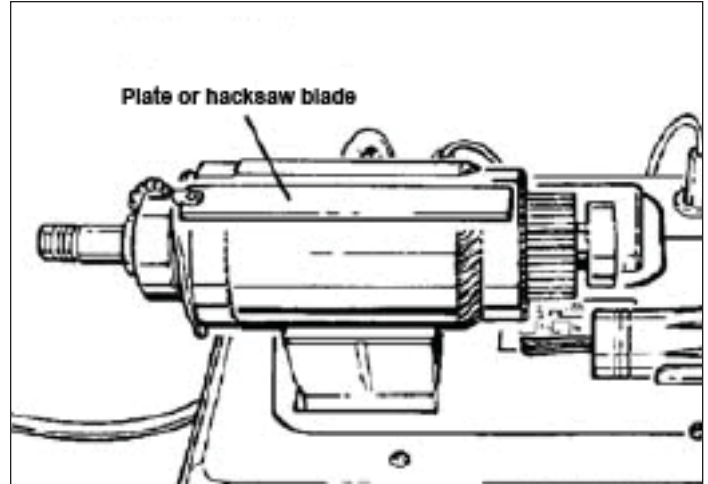

Figure 9-12. Checking Armature for Shorted Windings
2. For short circuit connection, use a hacksaw blade to locate any shorted windings. Rotate armature slowly in growler jaws and hold a hacksaw blade in parallel against top of armature. The steel blade will be attracted to the core and will vibrate when two shorted armature coils are located. See Figure 9-12.